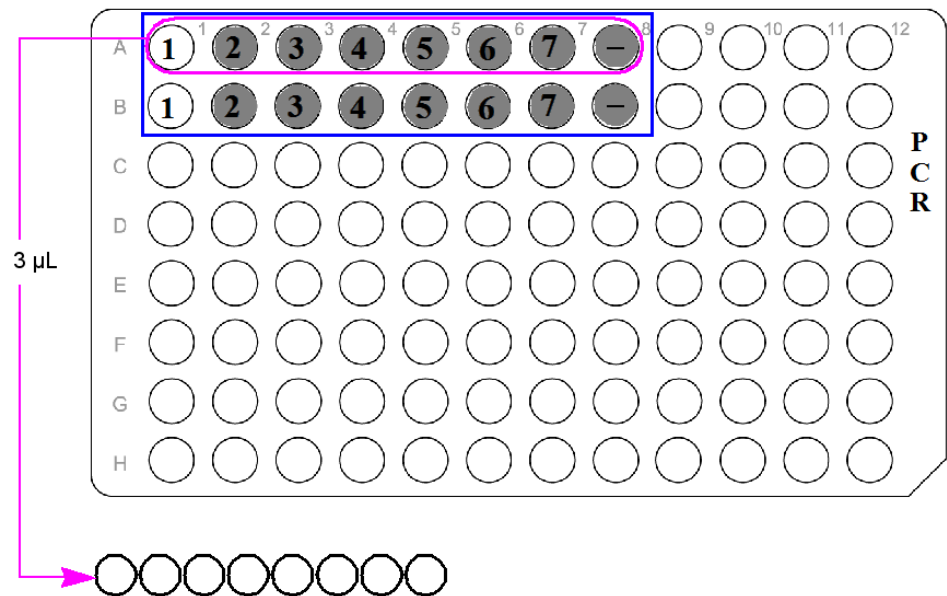

Figure 9 Transfer of PCR products to gel plate.
2. Transfer 3 μL of the PCR product from each well of row A to corresponding wells of the strip tube (Figure 9) for in-process QC.